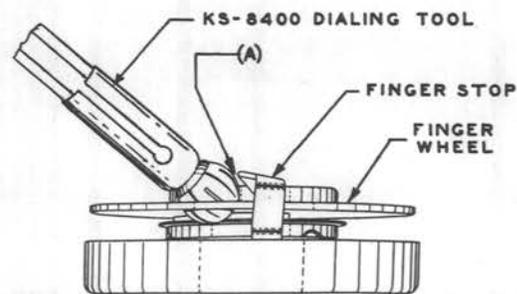

Fig. 21 — Method of Checking Overlap of Finger Stop and 0 Hole of Fingerwheel on Dials Having Sloping Face Finger Stops
- (3) When the sloping face finger stop shown in Fig. 21 is replaced, the new finger stop should be located so that with the KS-8400 dialing tool inserted into the 0 hole of the fingerwheel and inclined as shown in Fig. 21 (approximately 45 degrees with the surface of the fingerwheel), there should be a clearance at (A) in Fig. 21, not to exceed 1/32 inch, between the finger stop and the surface of the dialing tool.
- (4) To change the position of the finger stop, remove the card holder, the fingerwheel, the number plate, and the gasket and guard if the latter are provided, as covered in 3.01(2), (3), and (4) for the 2-, 4-, and 5-type dials, 3.01(6), (7), and (8) for the 6-type dials equipped with metal fingerwheels, or 3.01(11), (12), and (13) for the 6-type dials equipped with plastic fingerwheels. Loosen the finger stop mounting screws with the C screwdriver and shift the finger stop as required. Remount these parts and check the clearance. If the